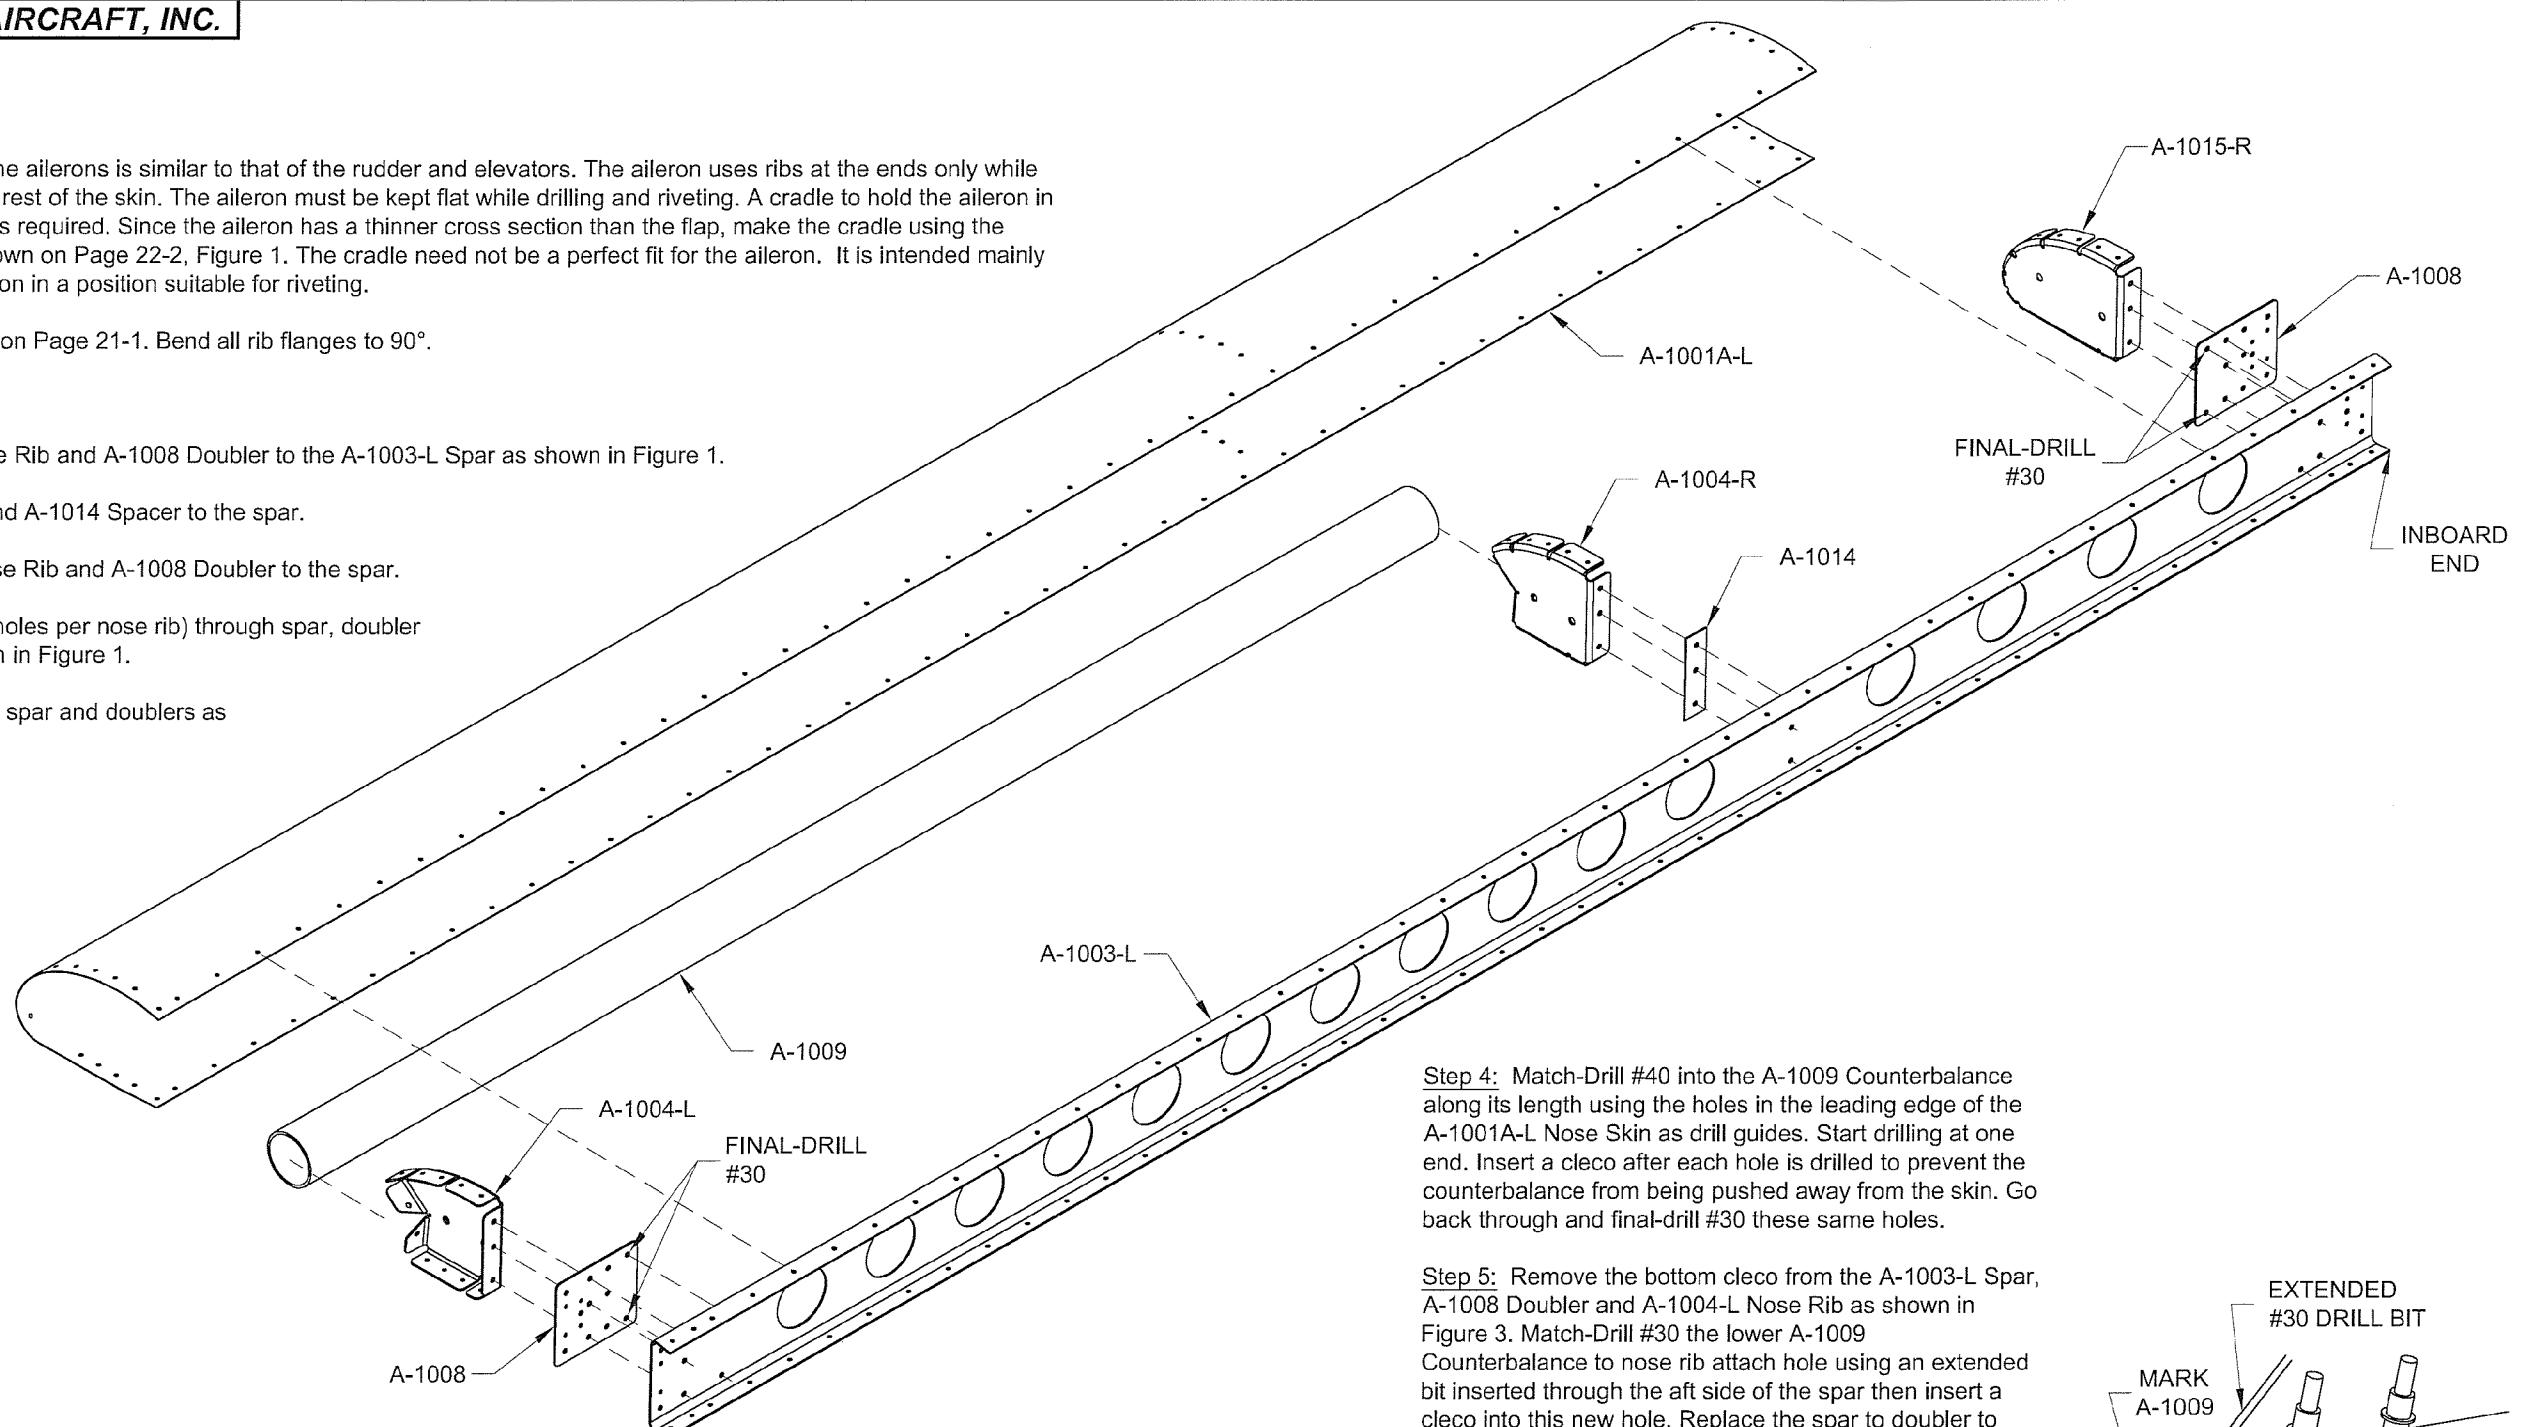
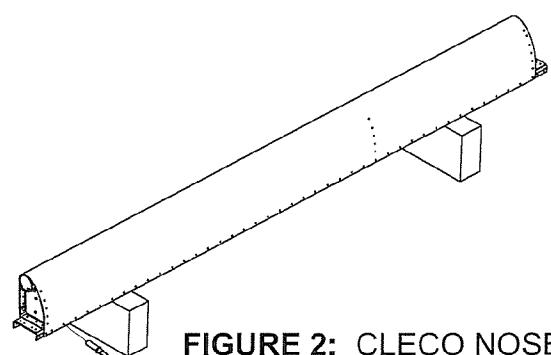

FIGURE 1: ASSEMBLE THE 'D' CELL
FIGURE 2: CLECO NOSE SKIN
Final-Drill #30 nine holes (three holes per nose rib) through spar, doubler or spacer, and nose rib as shown in Figure 1.
Final-Drill #30 four holes through spar and doublers as shown in Figure 1.
Step 3: Cleco the A-1001A-L Nose Skin to the lower flange of the A-1003-L Spar at every third hole. Lay the A-1009 Counterbalance into the nose skin so that it is flush with the outboard edge of the nose skin. Cleco the nose skin to the A-1004-L and -R Nose Ribs and to the A-1015-R Inboard Nose Rib as shown in Figure 1. Place the assembly leading edge up onto a narrow table or blocks as shown in Figure 2. Cleco the nose skin to the top flange of the spar at every third hole applying downward pressure on the nose skin if/as required to insert the clecos.